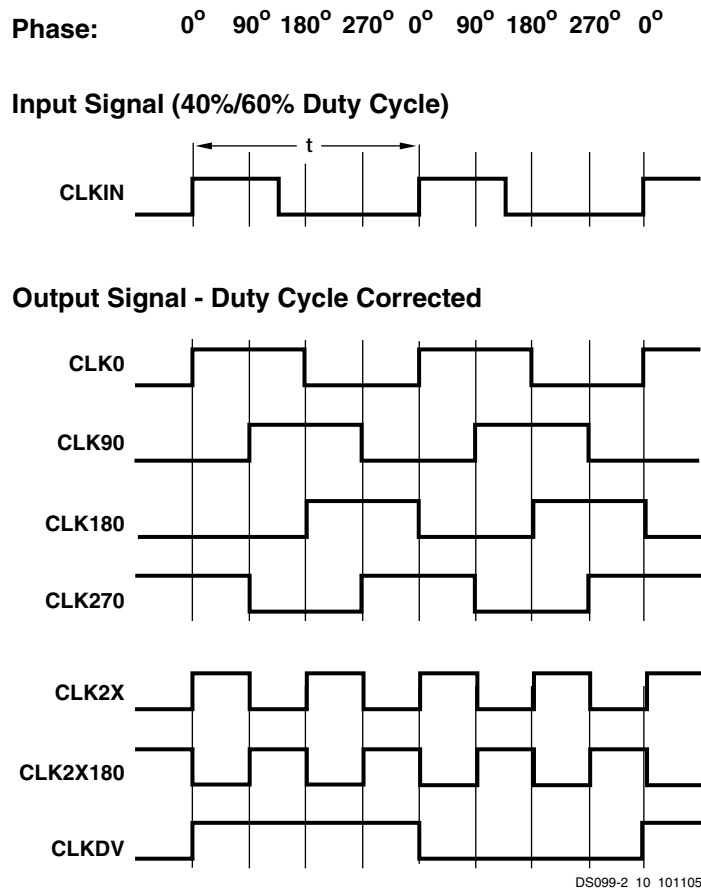

Figure 43: Characteristics of the DLL Clock Outputs
In addition to CLK0 for zero-phase alignment to the CLKIN signal, the DLL also provides the CLK90, CLK180, and CLK270 outputs for 90°, 180°, and 270° phase-shifted signals, respectively. These signals are described in Table 28, page 47 and their relative timing is shown in Figure 43. For control in finer increments than 90°, see Phase Shifter (PS).